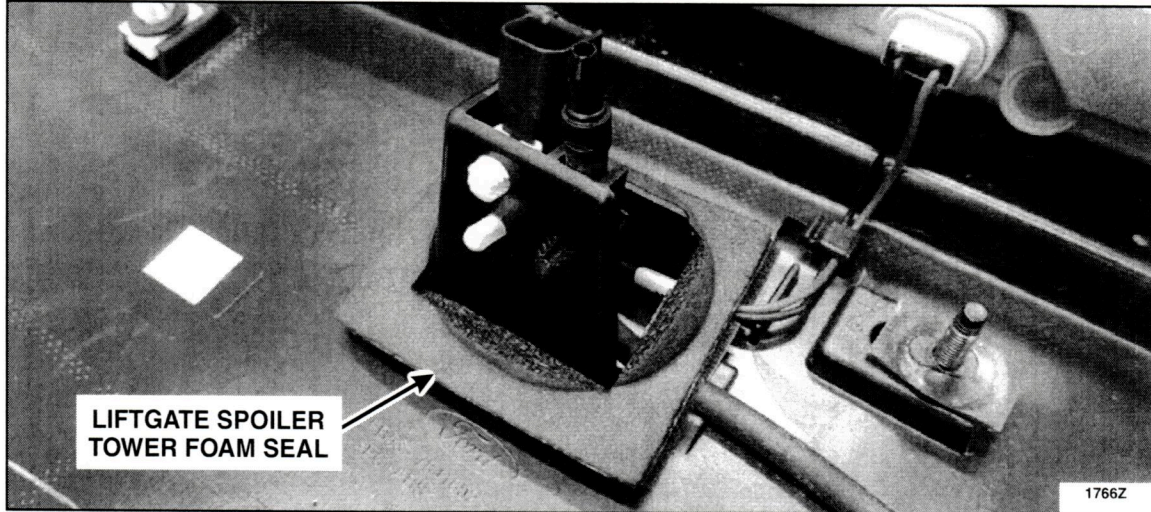

FIGURE 10
4. Remove the liftgate spoiler tower foam seal. See Figure 10.